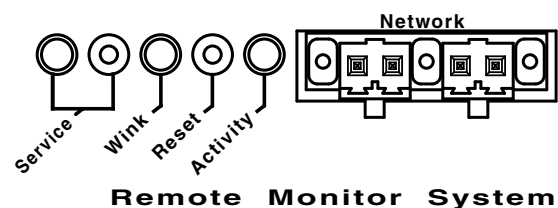

Figure 4.3. The RMS communications module
M'elodie’s user panel contains an RMS communications module, as shown in Figure 4.3.
**NOTE:** The LEDs and buttons on RMS communication board shown in Figure 4.3 are used **exclusively** by RMS, and have no effect on the acoustical and/or electrical activity of the M'elodie loudspeaker itself — unless Mute or Solo is enabled at the board and from the RMS software.